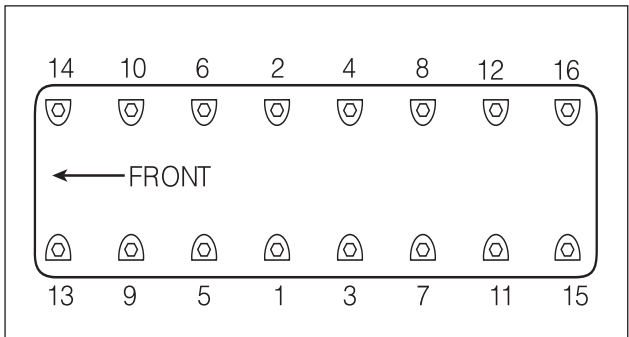

FIG. 25
6. Install the cover on the spacer and tighten the cover capscrews to 130 lb.-in. (15 N•m) in the sequence shown in Fig. 25.